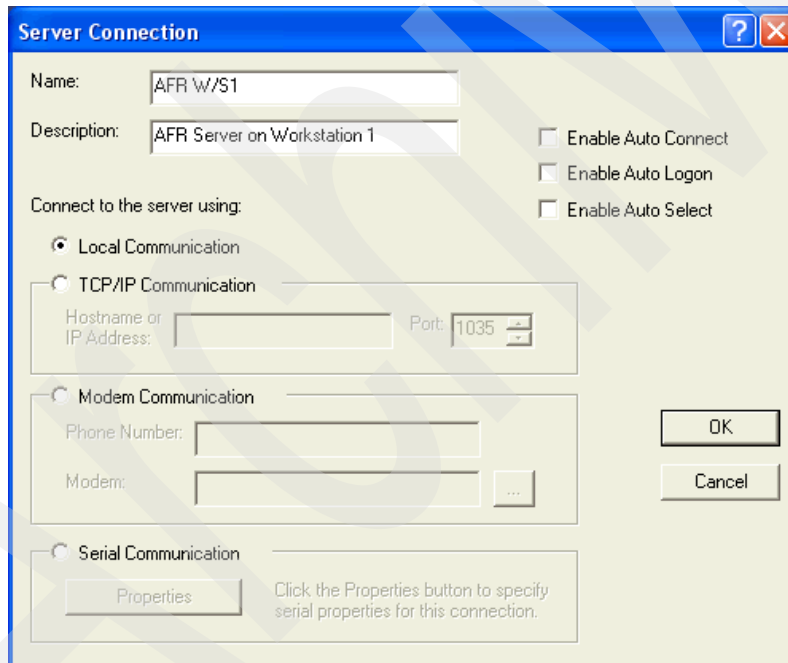

Figure F-7 Server connection
4. The Server Connection panel is displayed (Figure F-7).